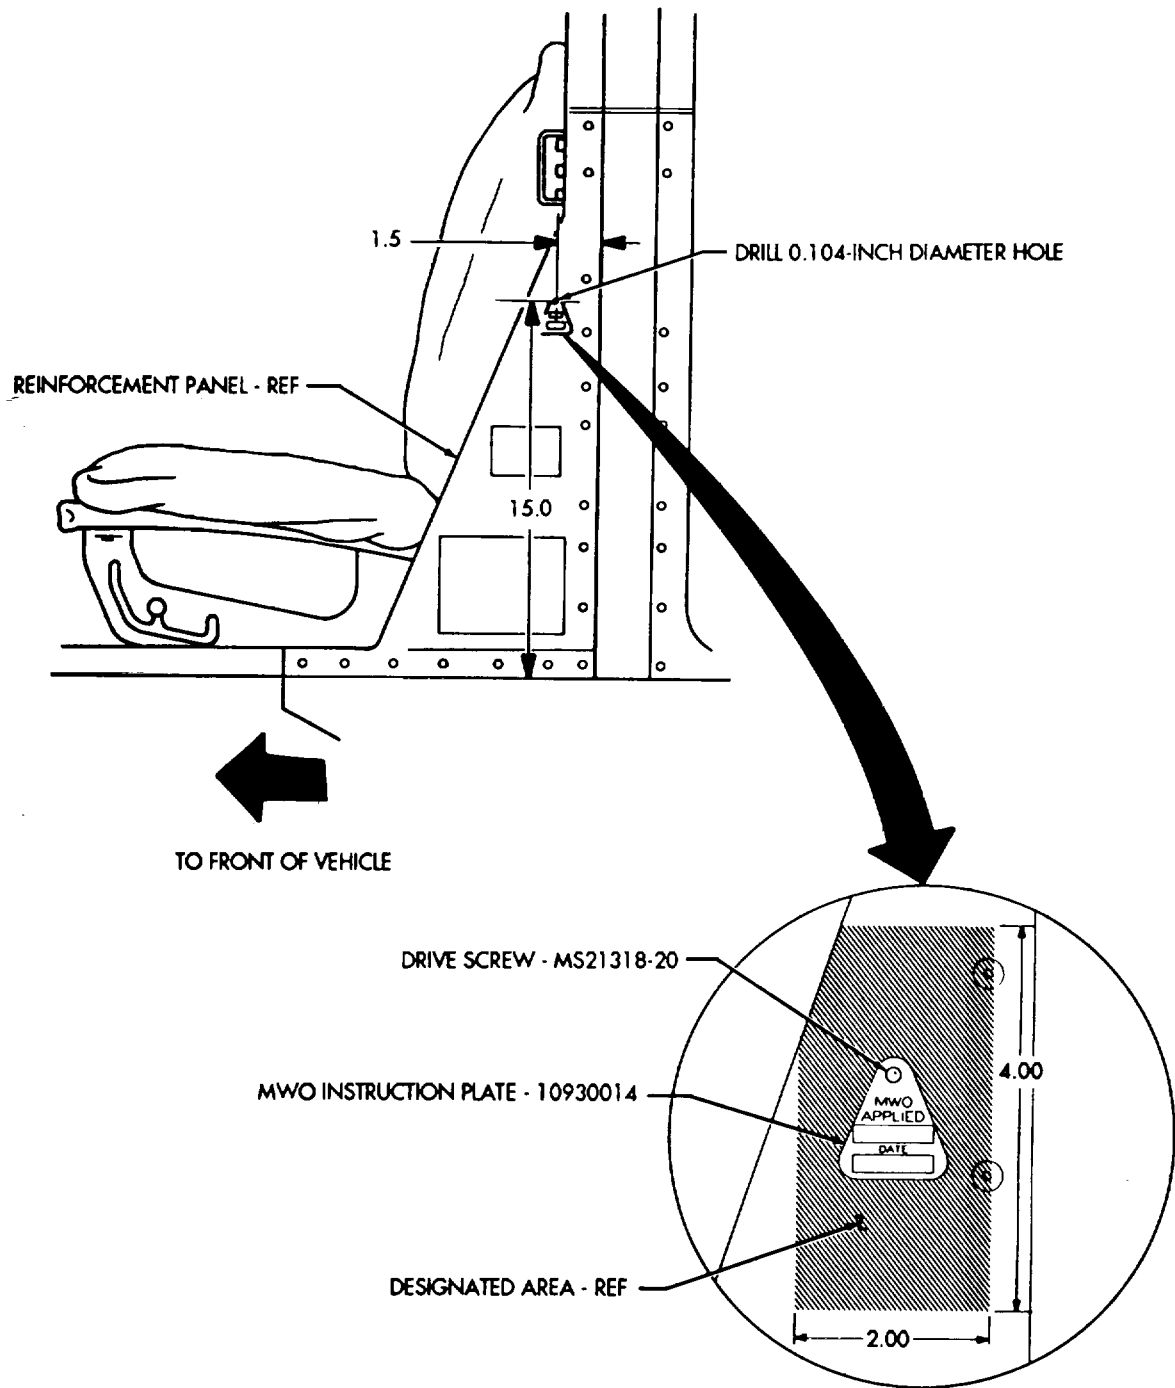

FIGURE 4
(1) After Steering Column Bracket Modification Kit is installed, mark MWO number "9-2320-280-20-4" in the MWO Applied Block and date applied in Date Block on MWO Instruction Plate 10930014.
(2) Install 10930014 MWO instruction plate by drilling a 0.104-inch diameter hole within designated area on body reinforcement panel and secure with MS21318-20 drive screw as shown in figure 4.
(3) After drive screw is installed, flatten or remove any protruding drive screw material from inside of body reinforcement panel.